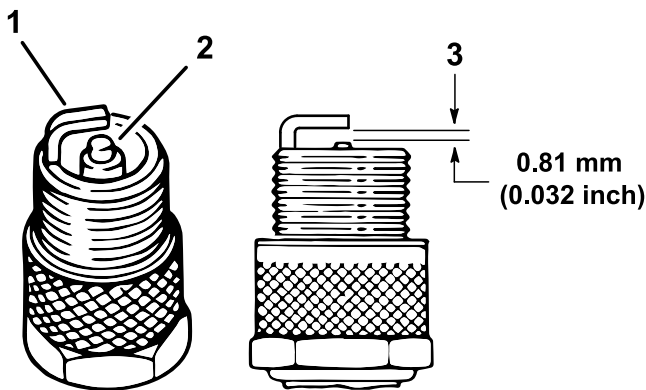

Figure 38
4. Check the condition of the side electrode, center electrode, and center electrode insulator to ensure that there is no damage (Figure 38).
5. Set the air gap between the center and side of the electrodes at 0.81 mm (0.032 inch) as shown in Figure 38.